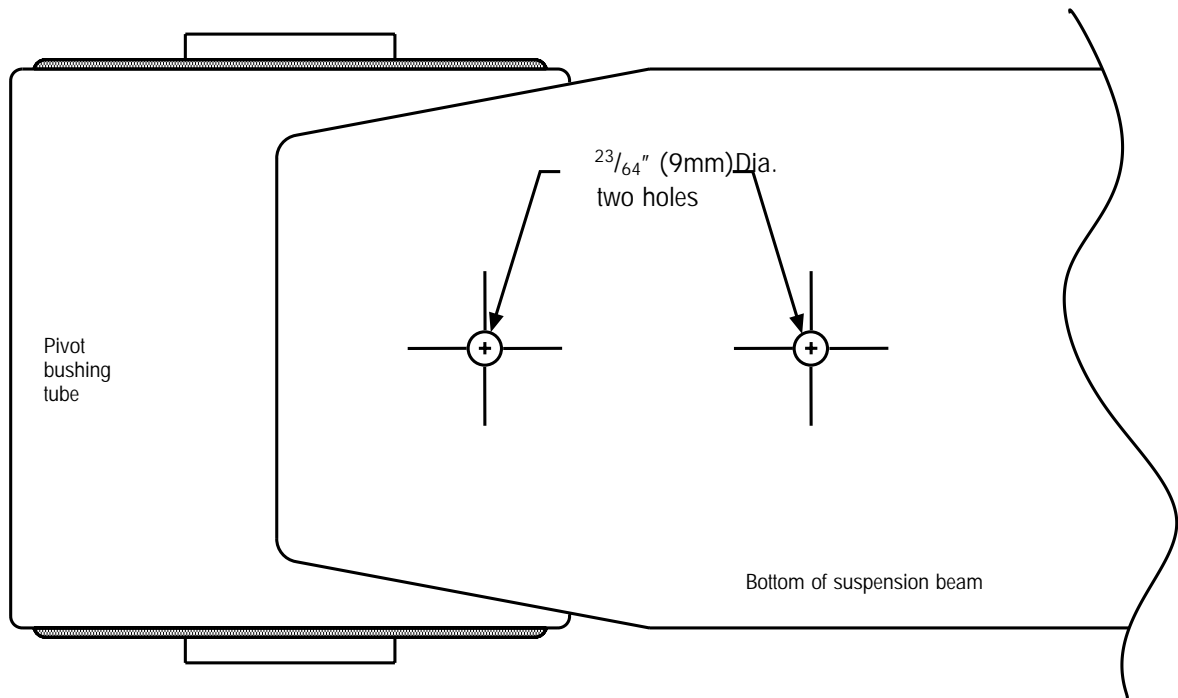

Figure 1. Positioning template(s) on the bottom of the suspension beam
1. Position the template (Figure 7 on page 7) on the bottom of the suspension beam (Figure 1). Tape the template into place.